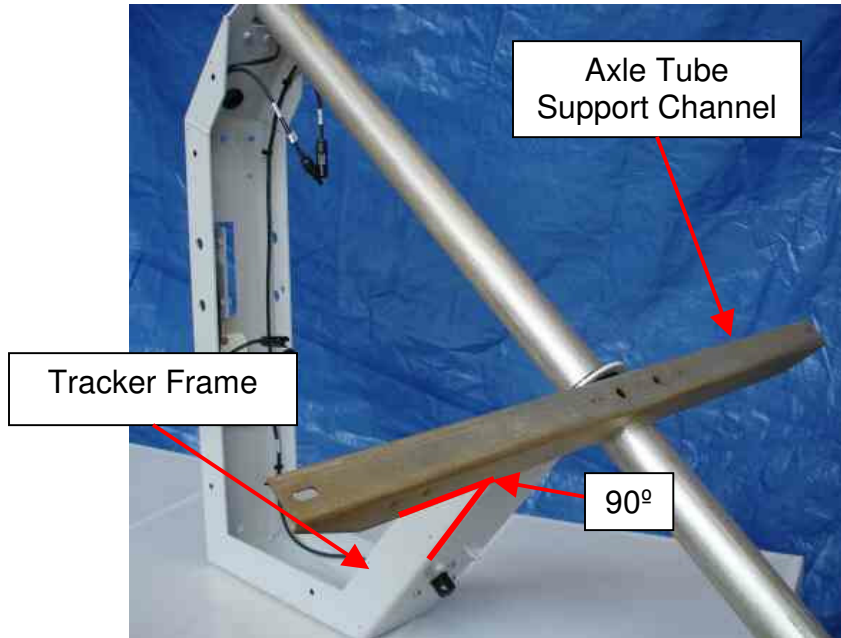

Figure 3
3. Orient Tracker Frame Assembly as shown in Figure 3. Ensure Axle Tube Support Channel is approximately 90° to the Tracker Frame.